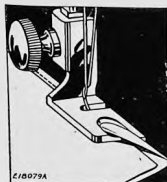

FIG. 37
(1) When making this seam, the garment must first be fitted and the edge of the material trimmed, allowing for about  $\frac{1}{8}$  inch seam. Insert the two edges of the material, right sides together, in the hemmer in the same manner as a single hem as shown in Fig. 37. If the material is bulky, place the edge of the upper piece of material about  $\frac{1}{8}$  inch to the left of the edge of the under piece.
(2) The free edge of the hemmed seam may be stitched flat to the garment, if desired. To do this, open the work out flat, wrong side up, then insert the hem in the scroll of the hemmer, holding the edge of the hem in position while it is being stitched. If the seam is stitched flat to the garment, one row of stitching is visible on the right side.